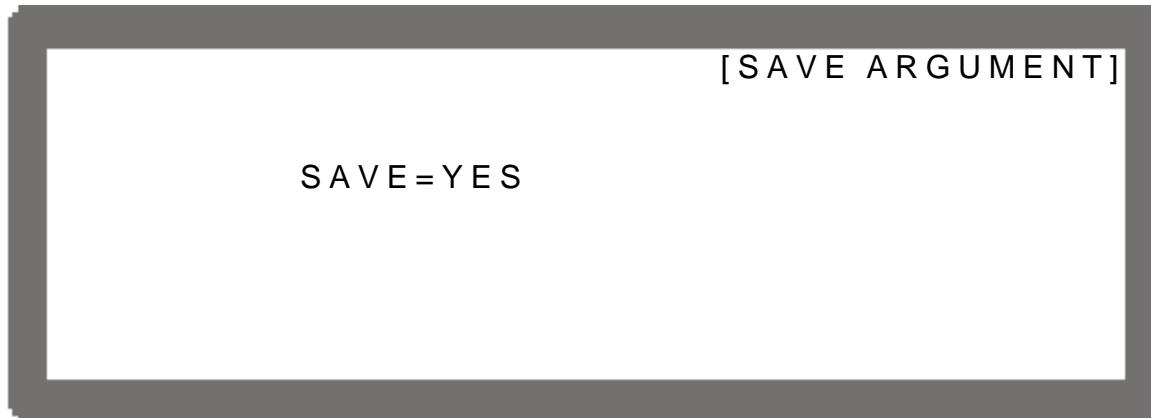

Figure 3-109
12. The current calibration is done once the above actions are completed. Remove the load of Electronic LOAD and press “” and “” to save the calibrated data as Figure 3-109 shows, or press “” to return to MAIN PAGE.